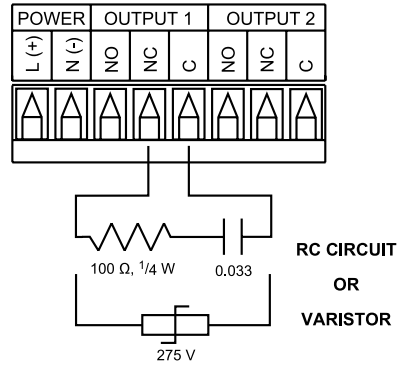

Figure 2.8
If you have an inductive load connected between Common (C) and Normally Closed (NC) contacts of the mechanical relays and you want to protect them from the rush current during the switching period, you have to connect an external snubber circuit between Common (C) and Normally Closed (NC) contacts as indicated in **Figure 2.8**.